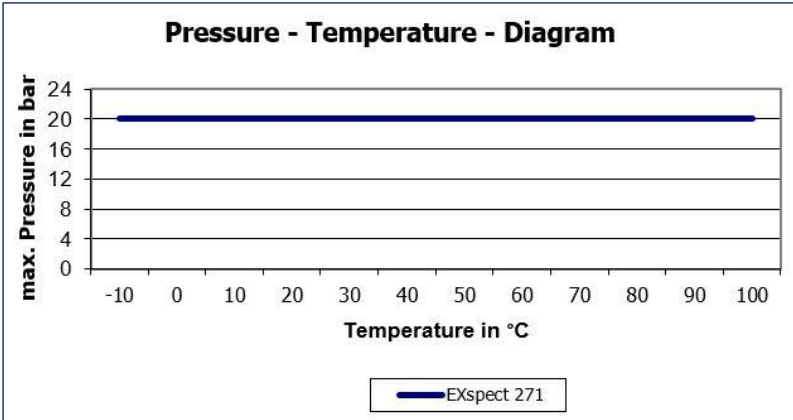

Fig. 2: EXspect pressure-temperature diagram
4. Weld the parts between the 4 points (Fig. 2 below)